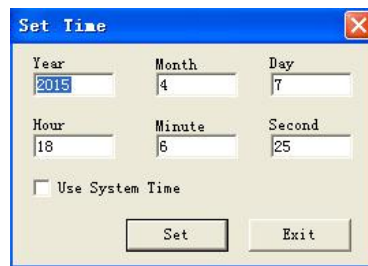

Fig. 7.10.12 Modify Time Interface
c. Click option "Tools->transfer->Set time" with left button of the mouse, or click "  under toolbar, dialog box appears shown as Fig. 7.10.12.